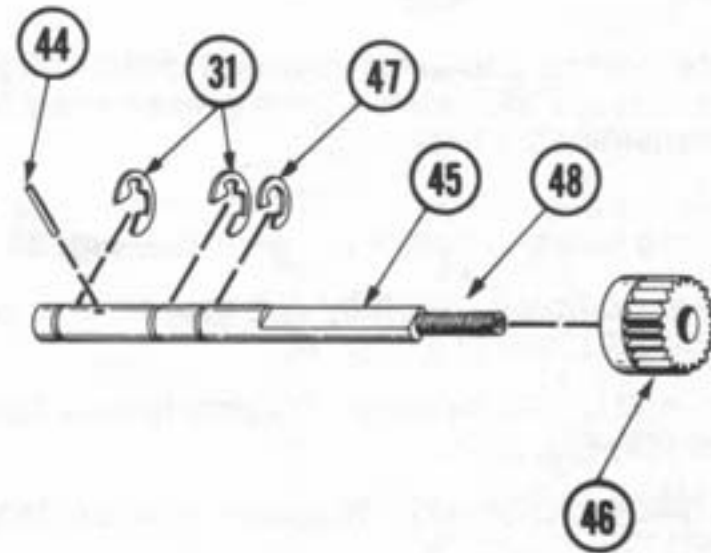

Figure 18
1. Insert one 1/16 x 7/16 pin (44) through hole in top gear shaft (45) Fig. 18
4. Thread in the long 4-40 threaded set screw (48) into the end of the top shaft (45). A small amount of thread lock should be used. Fig. 18 set aside until Step 27.